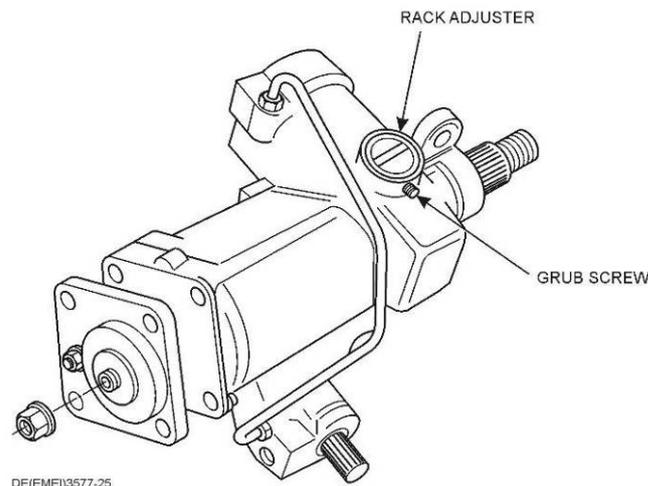

Figure 290 Removal of the Rack Pad Adjuster
- d. Remove the grub screw from the rack pad adjuster and with a suitable screwdriver, remove the rack pad adjuster (Figure 290). Remove and discard the sealing ring and the nylon rack pad.